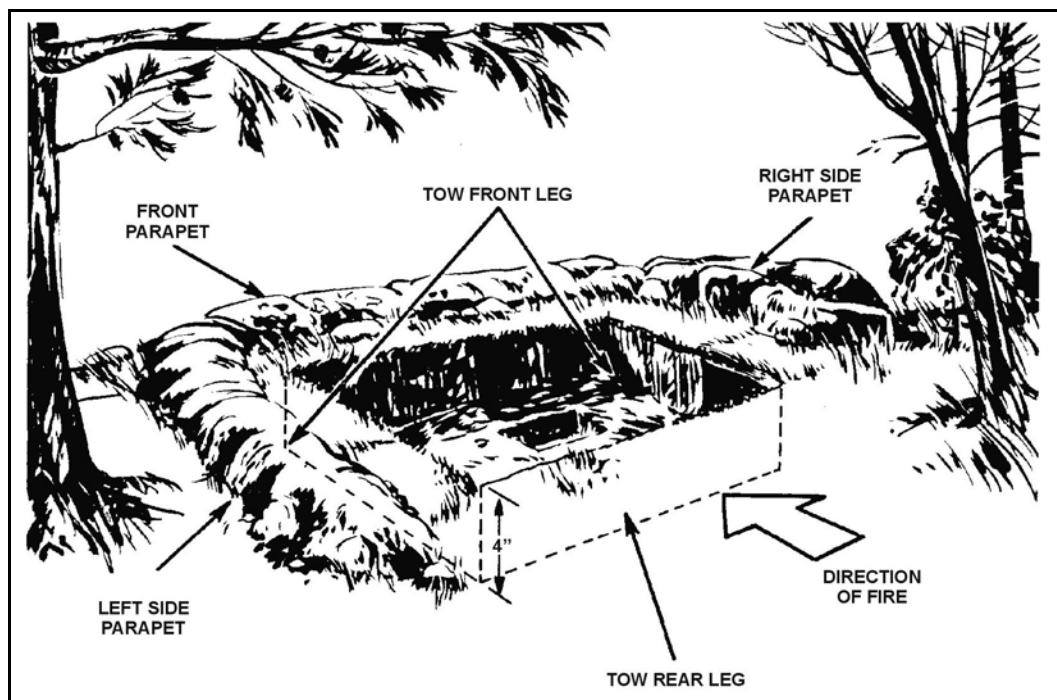

Figure D-8. Outline of dismounted position
(1) The squad keeps the selected weapon system mounted in the vehicle while it constructs a dismounted position and the gunner prepares a range card. The tripod outlines the dismounted position (Figure D-8). Once the position is complete, the squad emplaces the selected weapon system in the position and camouflages the position.